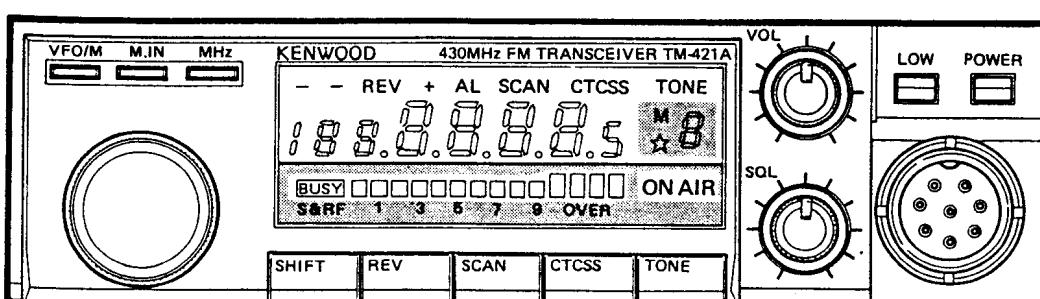

Fig 19
- Meter and display section should be set as follows Fig 19.